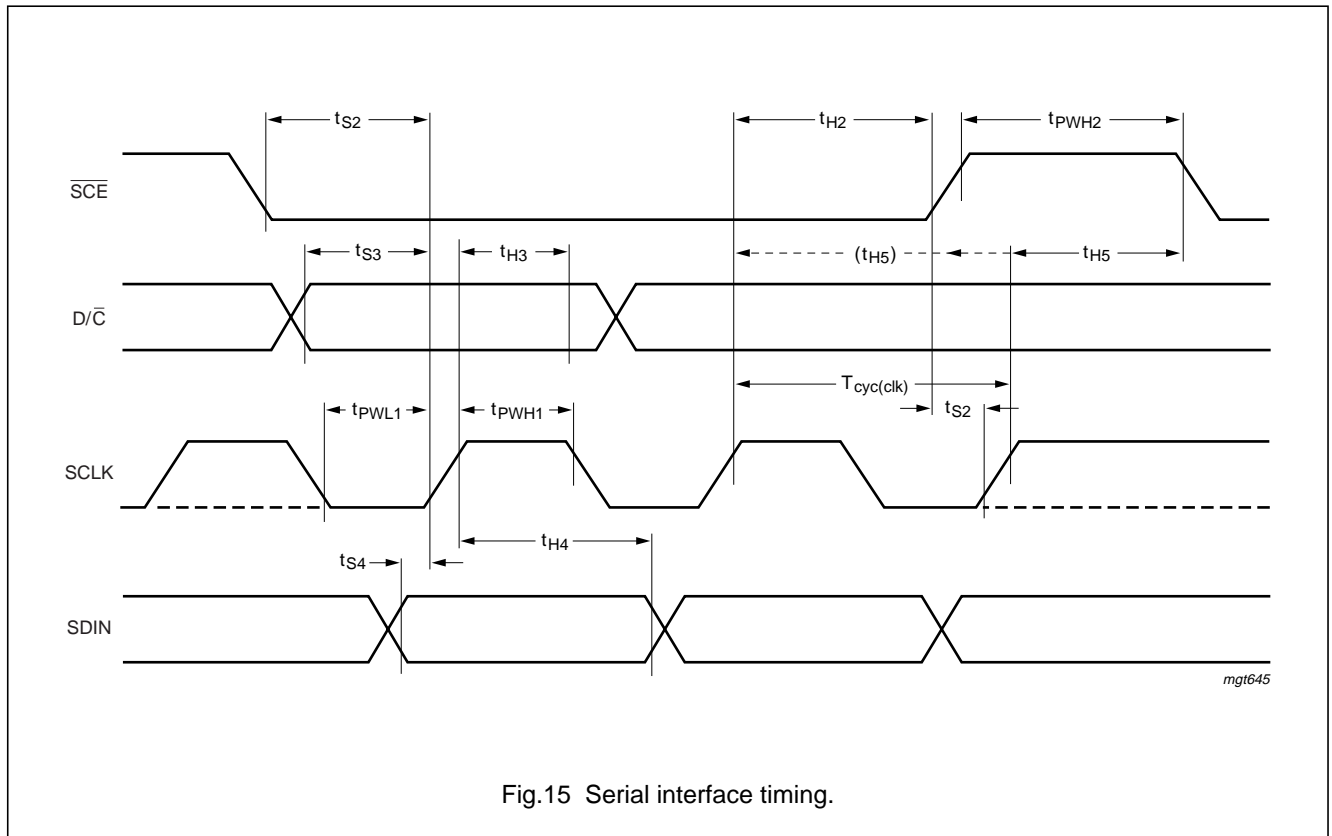

Fig.15 Serial interface timing.
Serial bus timing characteristics; see Fig.15
2. t_{H5} is the time from the previous SCLK positive edge (irrespective of the state of SCE) to the negative edge of SCE (see Fig.15).